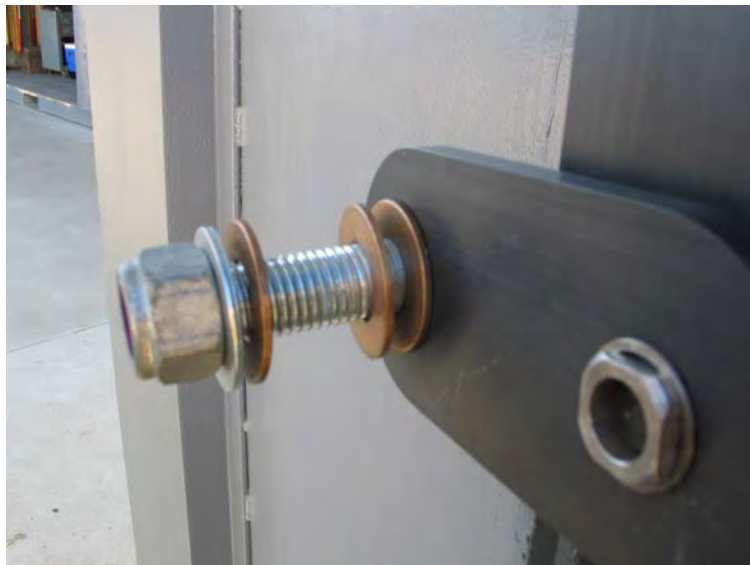

Figure 5-3. Disassembly of Bolt, Thrust Bearings, and Washers
Step 4: Remove cam driver bolt, thrust bearings and washers. Note the orientation of thrust bearings and washers for reassembly (see Figure 5-3). Remove the 1.00" thick steel lock bolt and set aside all hardware for reassembly.